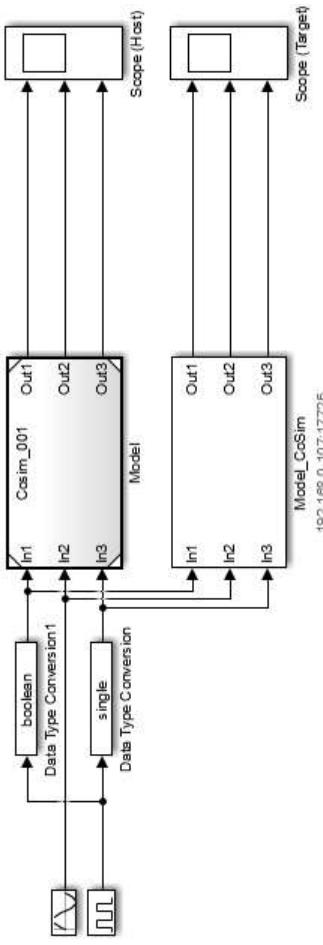

Figure 14-4 Example: connecting the inputs and outputs of the "Model_CoSim" client block
- Right-click on the client block (in Figure 14-4: “Model_CoSim”).
- Connect the client block inputs to the same simulation signals as the target model inputs (see Figure 14-4).